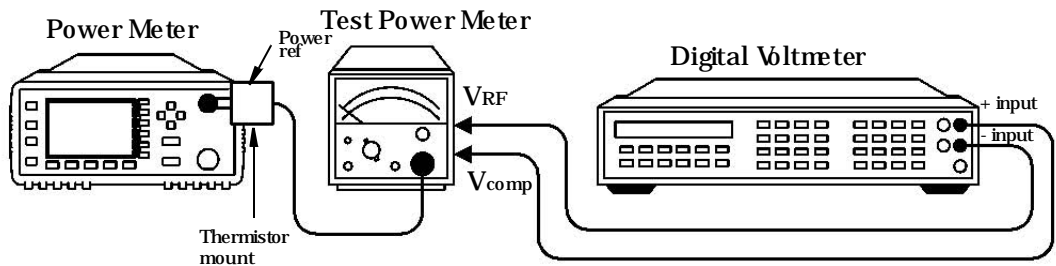

Figure 2-7: Output Standing Wave Ratio Test Setup
7. Connect the equipment as shown in Figure 2-7 ensuring that the DVM input leads are isolated from chassis ground.
- Connect the equipment as shown in Figure 2-7 ensuring that the DVM input leads are isolated from chassis ground.